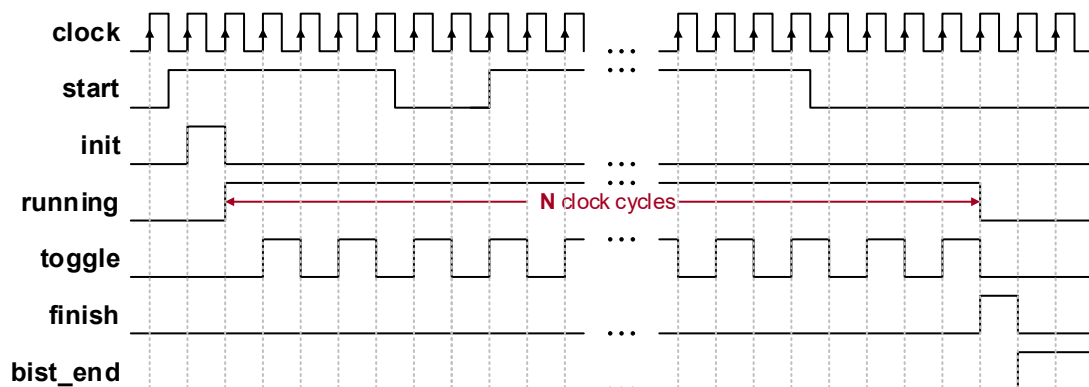

Figure 2: Waveforms
Figure 2 illustrates the behavior of the input and output signals. That information is complemented with a more detailed explanation of the controller inputs and outputs.
**start:** After a 0→1 transition in this signal, a new sequence must be initiated (see Figure 2). The **start** value is captured on the rising edge of the clock. While the full sequence is not completed (**bist\_end** signal set to HIGH), further transitions in the **start** signal must be ignored.